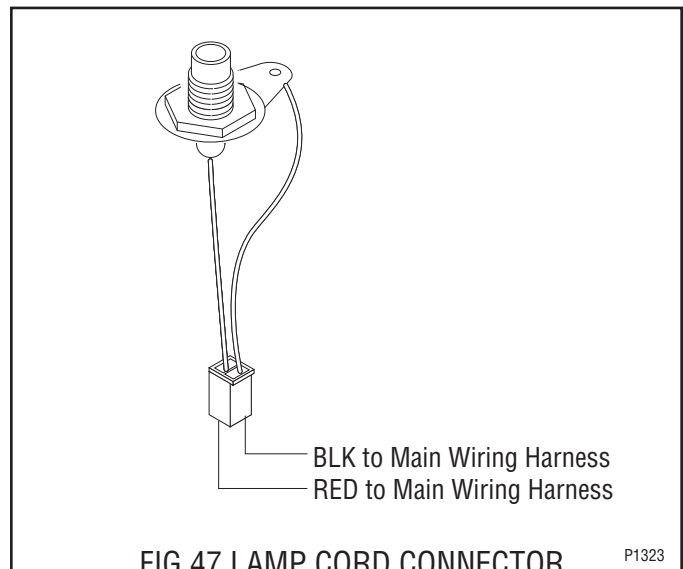

FIG.47 LAMP CORD CONNECTOR
5. Check for continuity across the black wire pin and red wire pin of the lamp cord connector (Fig. 47). Continuity must be present when the lamp cord assembly is connected and must not be present when lamp cord assembly is disconnected from lamp cord connector.
9. Refer to Fig. 47 when reconnecting wires.